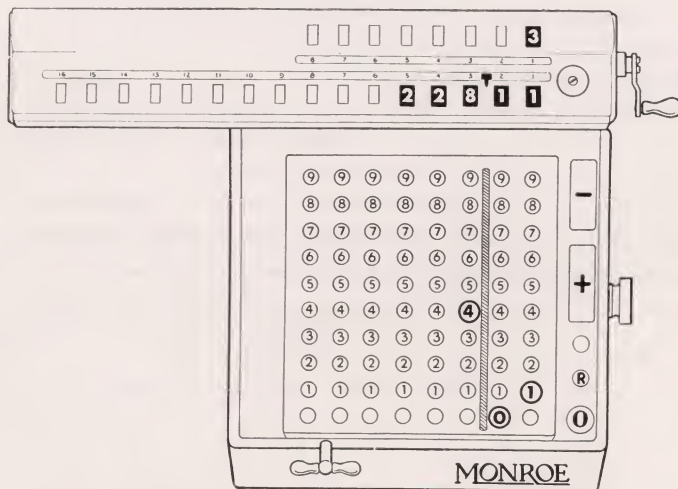

Figure 14
Step 3—Continue same routine for each extension, in each case clearing only the upper dials. After completing the last extension the lower dials show 228.11, checking the total of the invoice as shown in Figure 14.